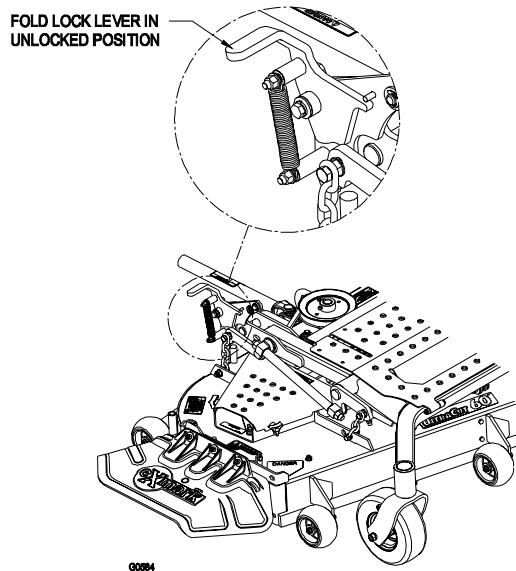

FIGURE 1
- 3.1.2 Rotate the fold lock lever, located on the front frame, in the unlocked position. (See Figure 1).
- c) Rotate the fold lock levers, located on each side of the deck, to the unlocked position. (See Figure 1)